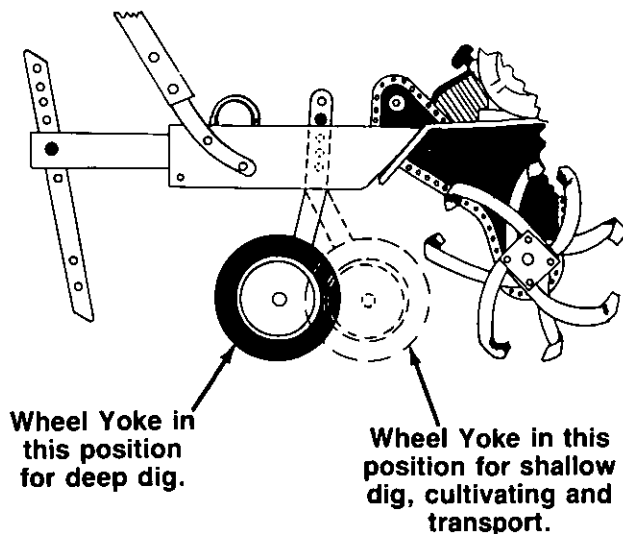

FIGURE 23.
1. **Wheel Yoke Adjustment:** Place wheel yoke so that the wheels are forward (nearest point between wheels and tines) for shallow tilling, cultivating and transport. This will also increase the forward speed. See figure 23. Turn yoke around (farthest point between wheels and tines) for deep tilling. Forward speed will decrease. See figure 23.